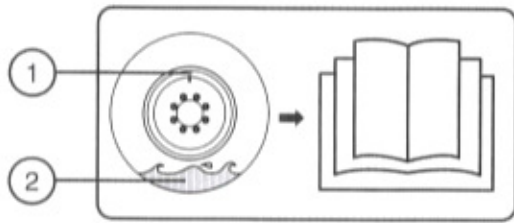

Figure 3-6. Tire Sealant Label
- When depressurizing, inflating or checking tire pressure, ensure that the valve stem is at the top to prevent sealant from entering the stem (refer to **Figure 3-6**).